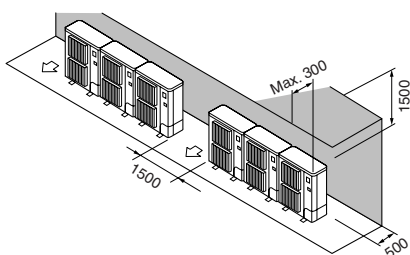

Fig. 2-9
② Obstacles at rear and above only (Fig. 2-9)